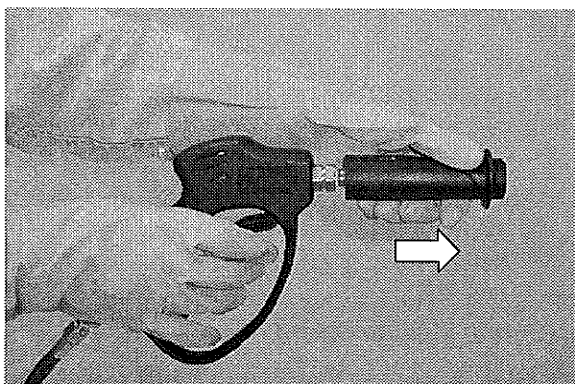

FIG. 12
4. Adjust gun to low pressure by pushing spray nozzle outward. Turn spray nozzle counter-clockwise for fan spray pattern (Figure 12).